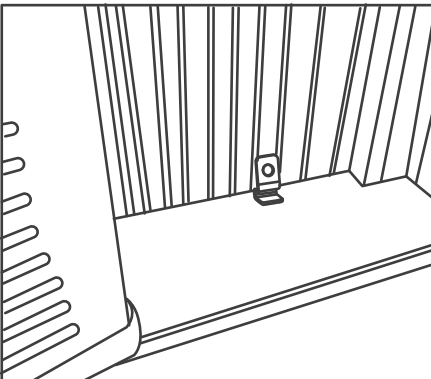
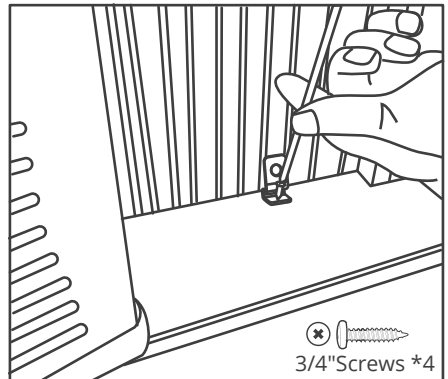

Fig.7
Fig.8
- Place the frame lock between the frame extensions and the window sill as shown (Fig.7). Drive 3/4" (19 mm) locking screws through the frame lock and into the sill (Fig.8).